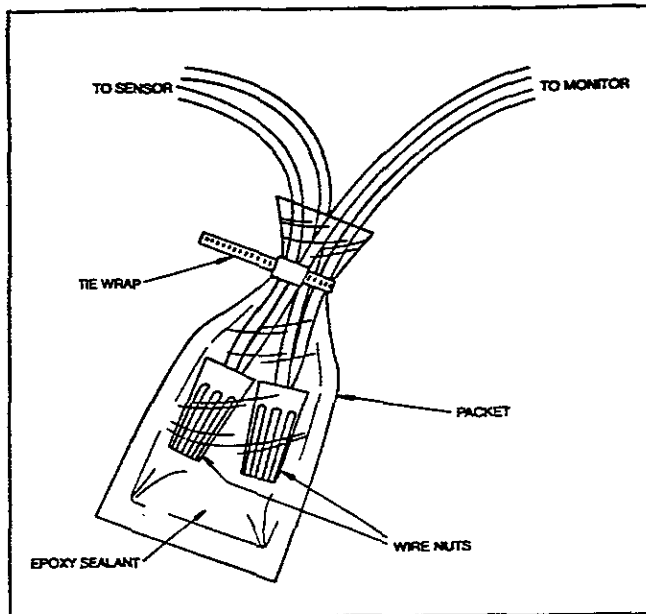

Figure 27. Epoxy Sealant for Two-Wire Connections.
9. Seal wire nuts with epoxy sealant using one bag for two wire nut connections. (See Figure 27, "Epoxy Sealant for Two-Wire Connections.")